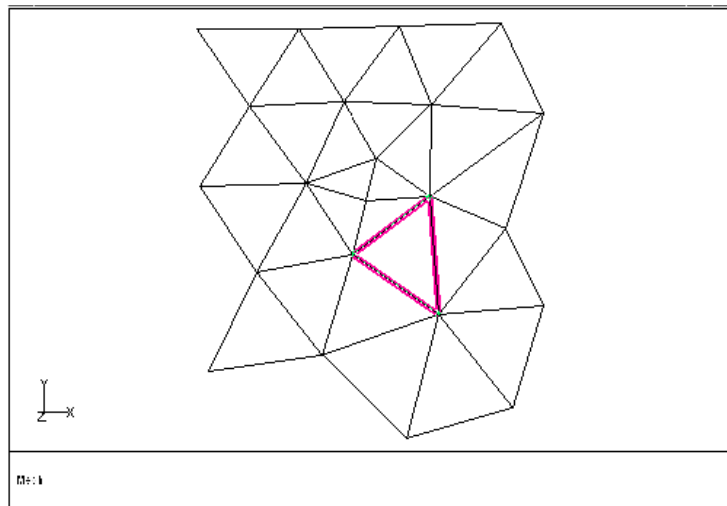

Figure 1.23: Face Selected for Splitting
- (b) Select the face to be split (Figure 1.23).